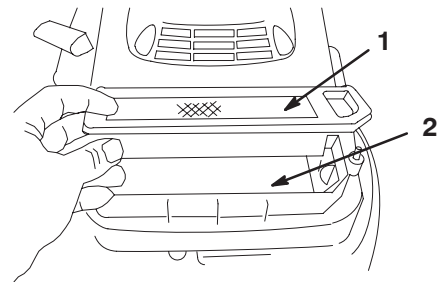

Figure 38
5. Remove the paper air filter and discard it (Fig. 38).